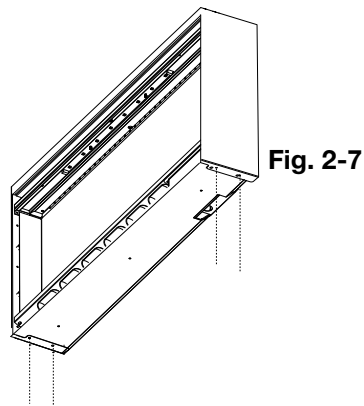

Fig. 2-7
5. If side covers are installed prior to recessed installation, remove the side covers by removing the screws (**Fig. 2-7 & 2-8**).